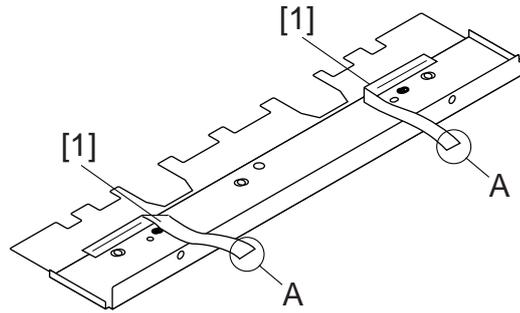

Figure 3-944
- 1) Attach adhesive tape to the border between the paper retaining plate and its fixing plate; then, fold it at a right angle. (Be sure the edge of the folded tape A sticks out the bend of the paper retaining plate as in Figure 3-944.)